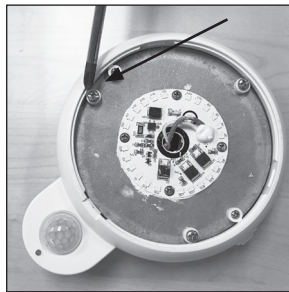
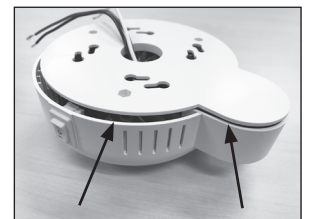

Figure 2A: Remove the Screws that hold the Mounting Base Plate to the Luminaire
Figure 3: Separating the Mounting Base Plate from the Luminaire
2. Now remove the three (3) screws that hold the mounting base plate to the luminaire with a #2 Phillips screwdriver. The screws are approximately 3-inches apart (See Figures 2A, 2B, and 2C). The mounting base plate can then be detached from the luminaire and mounted directly to the junction box. Rotate the mounting base plate (See Figure 3) until the slotted holes are positioned and aligned under the screws on the junction box, then tighten to ensure the mounting base plate is securely fastened to the junction box.
5. Re-insert the three (3) screws through the luminaire and ensure the screws are connected to the luminaire's mounting base plate. Then tighten the screws until the luminaire is securely attached to the mounting base plate.